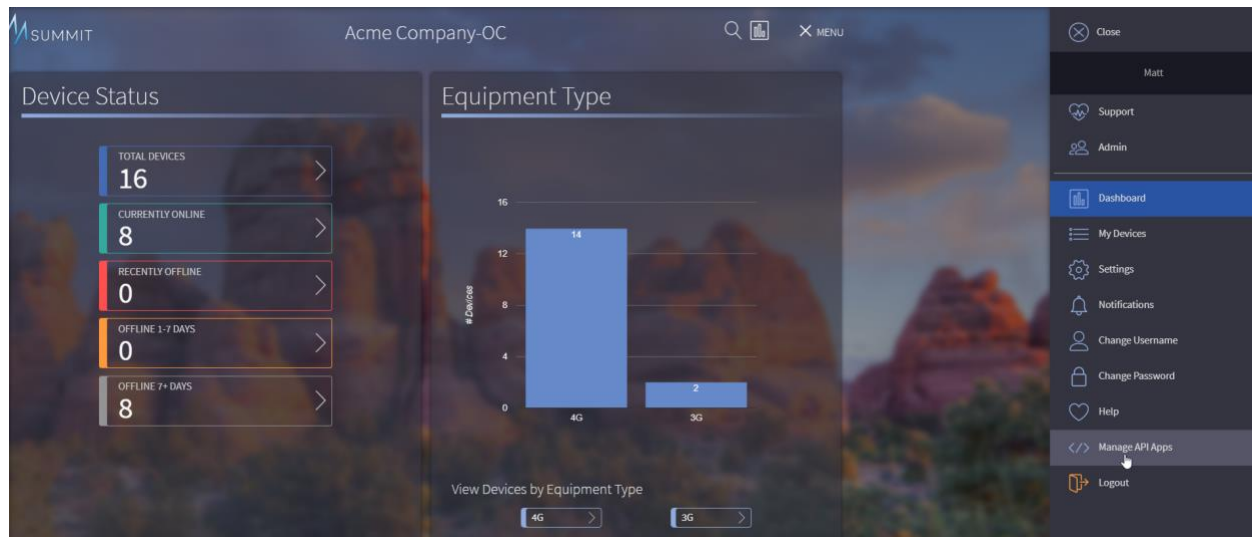

Figure 29
1. Navigate to <https://summit.optconnect.com/login> and login to the portal. In the top right area of the screen, click on the “MENU” button. In the menu, click on “Manage API Apps” as shown in *Figure 29*.